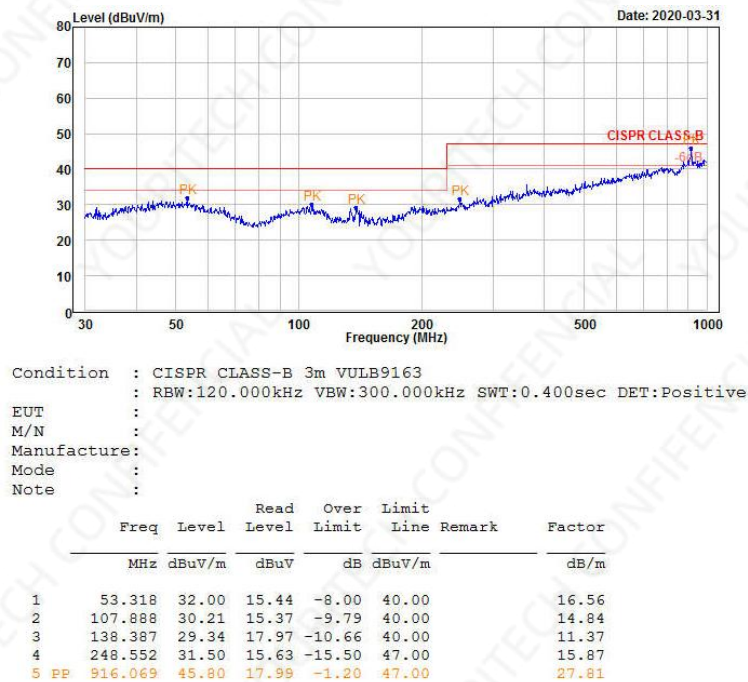

Figure 5-6: Horizontal direction of the radiation test
1. Radiation test horizontal test data, shown in Figure 5-6.